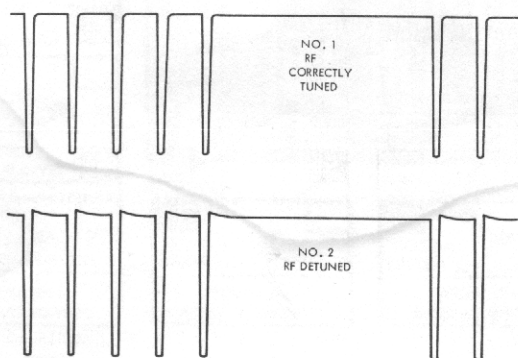

Figure 34. Demodulated RF Output Pattern
- 254. Using a plastic hexagon tuning wand, set tuning slug on antenna coil ③ flush with outer end of coil.
- 255. With antenna fully extended, turn transmitter ON. While observing oscilloscope for wave patterns, turn screw on oscillator capacitor ① clockwise until the oscillator starts. Adjust for peak signal on scope, and turn screw approximately fifteen degrees more clockwise beyond peak to "lock" oscillator in (until power output begins to fall off).
- 256. Adjust tuning capacitor ② clockwise until waveform peaks and approximates the output of figure 34.
- 257. Alternately adjust tuning slug ③ and capacitor ② until definite peaks are obtained and the observed waveform is similar to the illustration.
- 259. When tuning is complete, hold transmitter in both hands and press it tightly against the body. Turn switch OFF and ON several times to make certain oscillator starts each time. If not, turn capacitor ① clockwise slightly more to "lock" in oscillator.